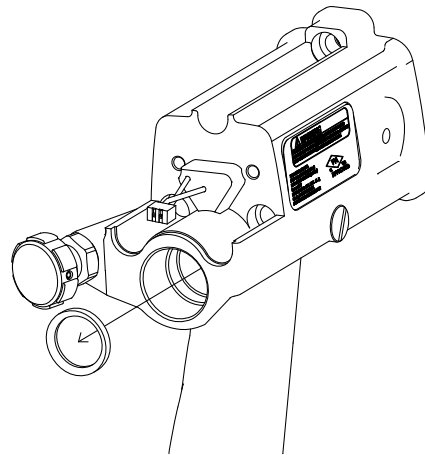

Figure 48: Rear Seal Removal
6. Remove air valve cartridge seal (black) (see Figure 48).